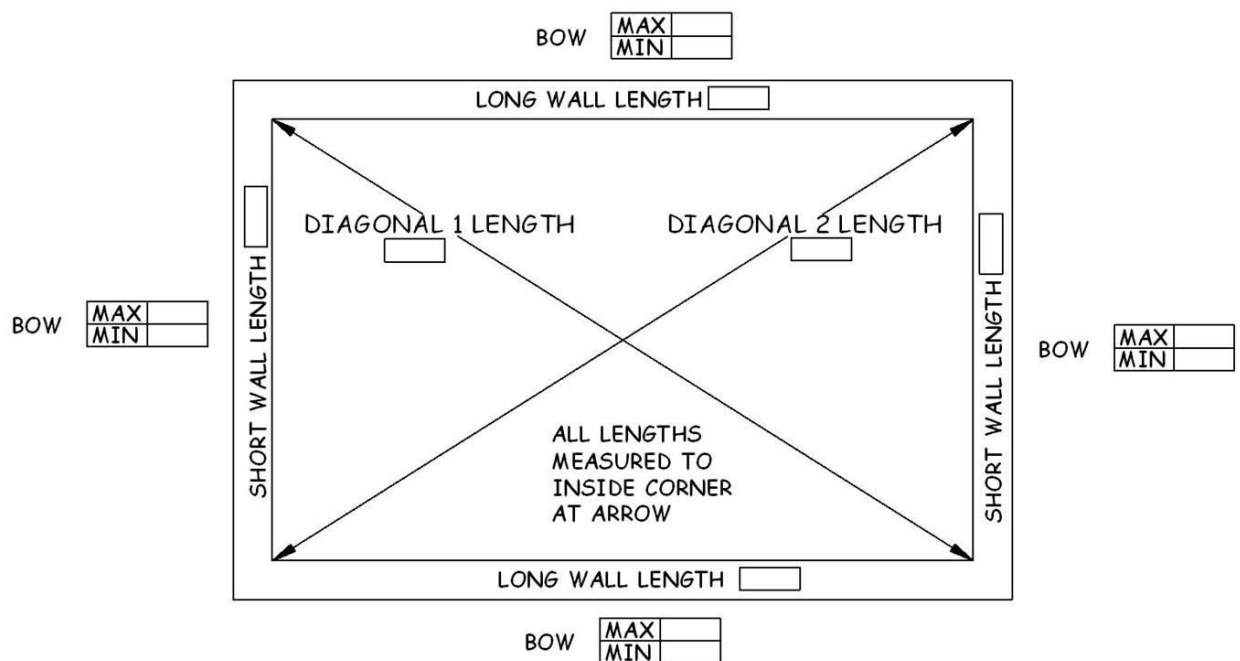

Figure 3-1. Wall Layout Diagram.
3. **Create a Rectangle** (See Figure 3-1). Measure the lengths (between string lines) of the opposite walls at each end and record on the Wall Layout Worksheet (copy available in the Construction Binder). If opposite wall lengths differ by ⅛" OR MORE, adjust the string lines using additional 8d nails to equalize the lengths by adding one-half the difference at each end of the shorter wall. Otherwise, proceed to the next step.